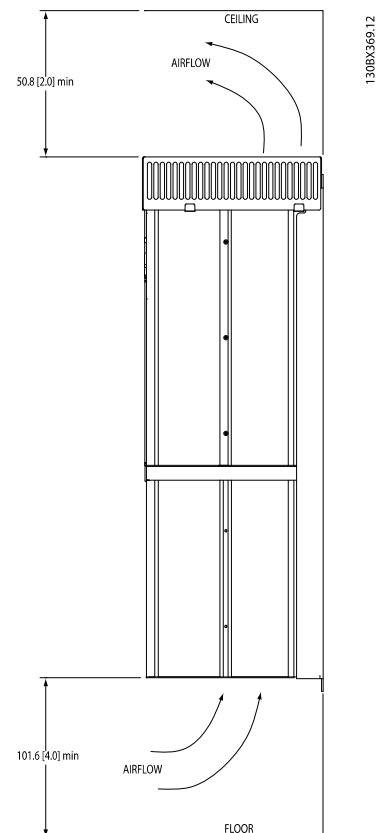

Figure 3.3 Cooling Airflow
- Top and bottom clearance is required for cooling (see *Figure 3.3*). Generally, 2 to 10 inches (50 to 250mm) minimum clearance is required, depending upon the hp (kW) of the unit. See the dimensional drawings in *8 Appendix* for specific requirements.